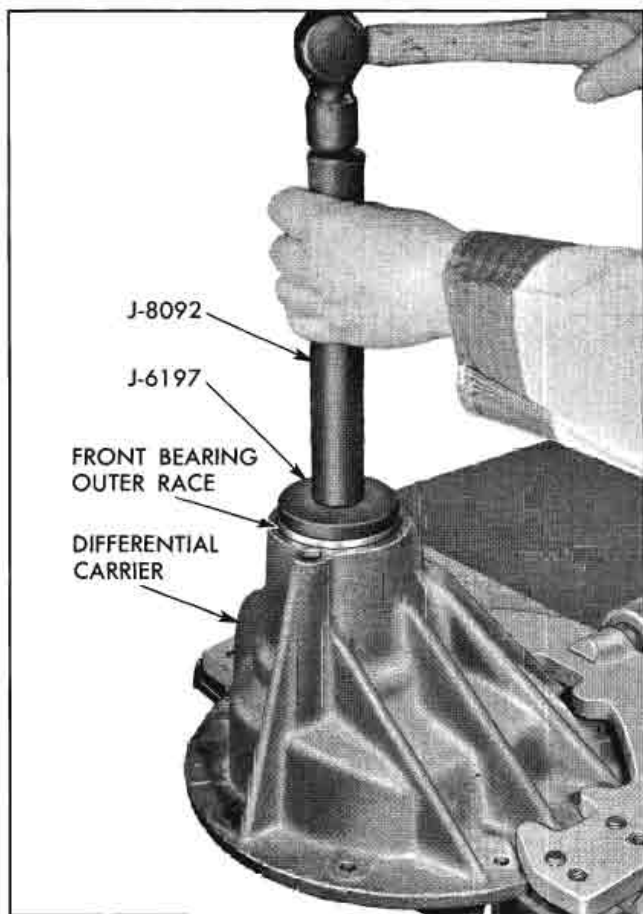

Fig. 4-45 Installing Front Bearing Outer Race with J-6197 and J-8092
5. Using J-8092 and J-6197, drive outer race of front pinion bearing until firmly seated in cavity (Fig. 4-45).